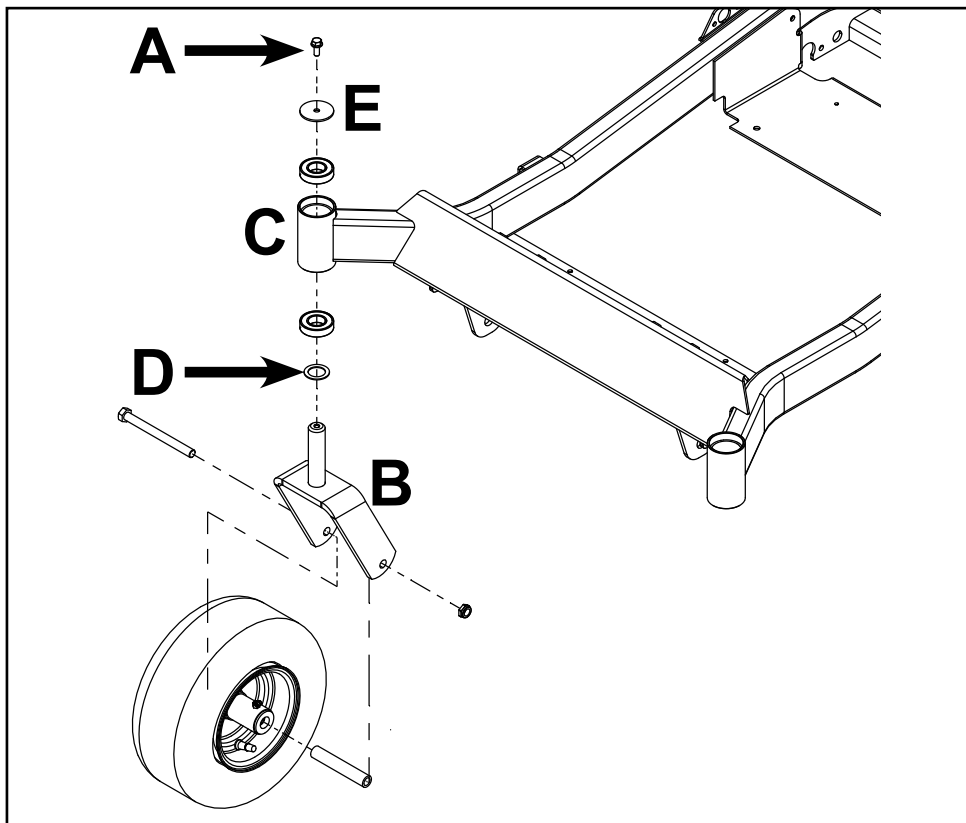

Fig. 005
2. Install thrust washer (D) onto the caster fork shaft.
4. Install washer (E).
5. Install fastener (A) and torque to specification - 17 ft-lbs. (23 Nm).
6. Safely lower unit and verify proper function. (Fig. 005)